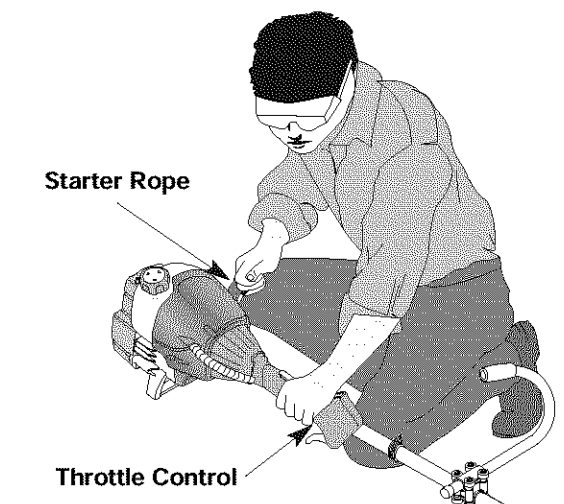

Fig. 8
WARNING: Avoid accidental starting. Make sure you are in the starting position when pulling the starter rope (Fig. 8). To avoid serious injury, the operator and unit must be in a stable position while starting.
5. With the unit in the starting position, **DO NOT SQUEEZE THE THROTTLE CONTROL** (Fig. 8). Pull the starter rope 5 times briskly, making sure the EZ-Start™ lever is pushed to the left.
1. Release your hand from the throttle control (Fig. 8). Allow the engine to cool down by idling.